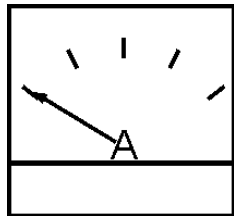

Figure 47. Ammeter (No Load)
12. The ammeter (Figure 47) will indicate zero amps with no load applied. When a load is applied, this meter will indicate the amount of current that the load is drawing from the generator.